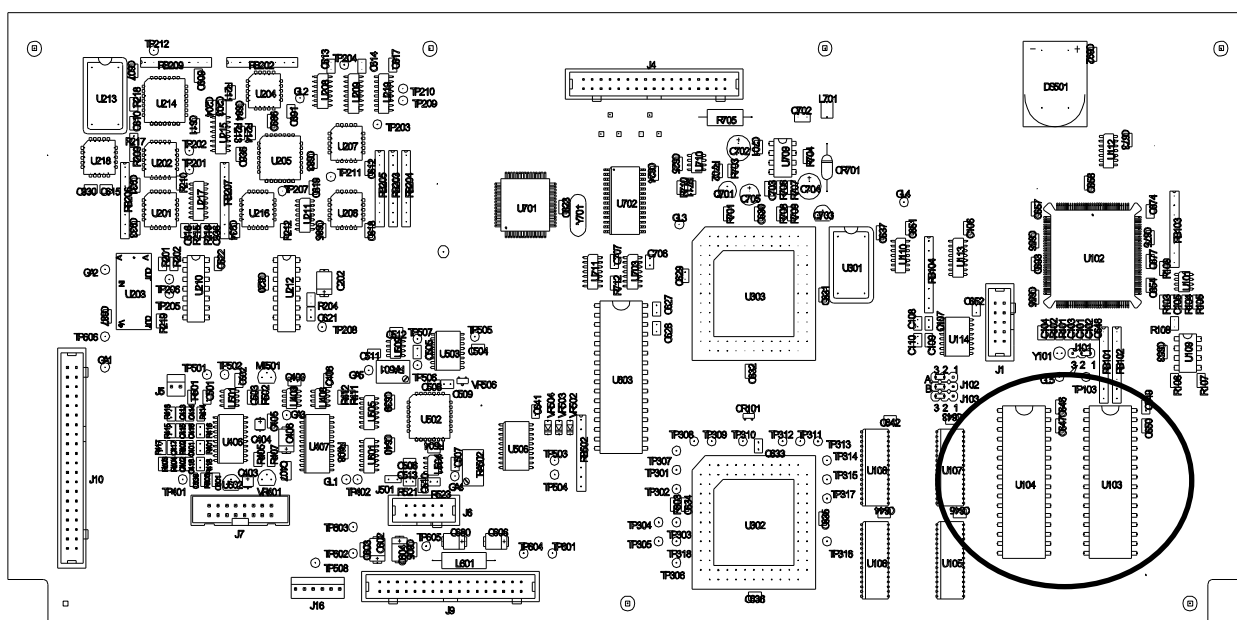

Figure A-1
7. Locate the EPROM sockets from Figure A-1.